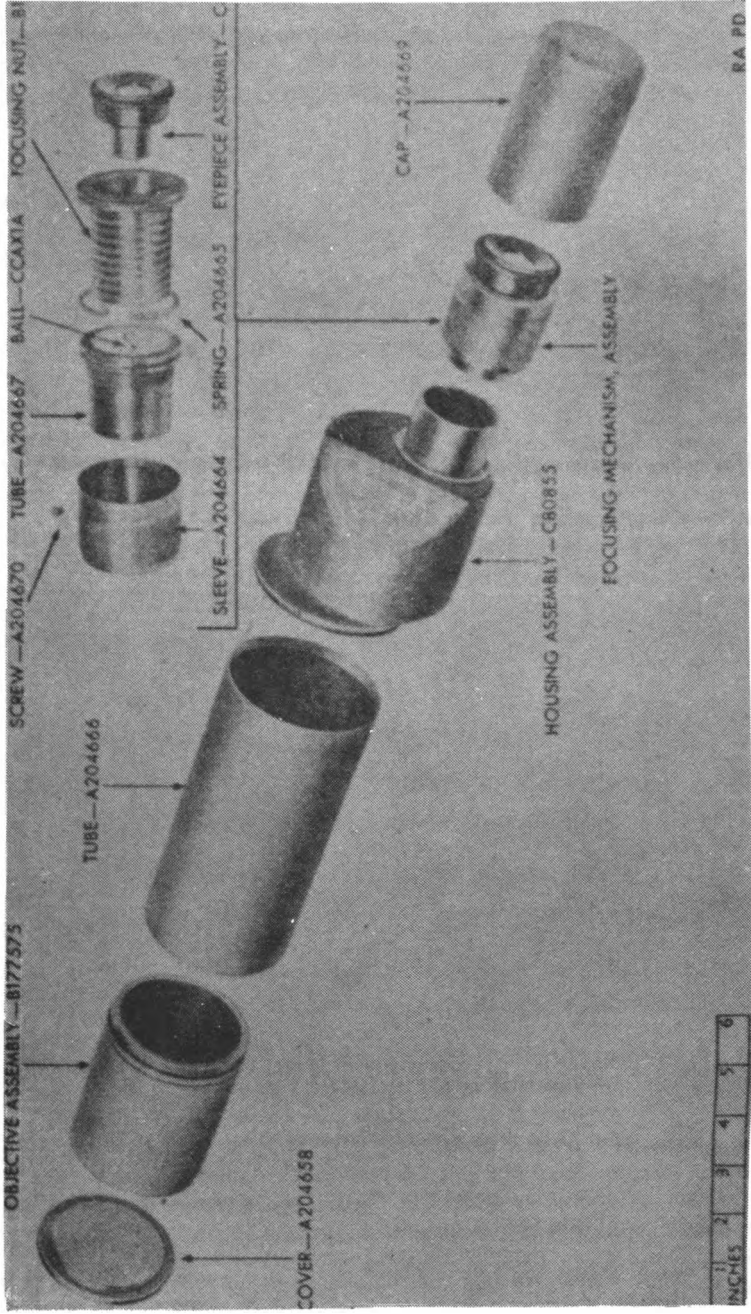
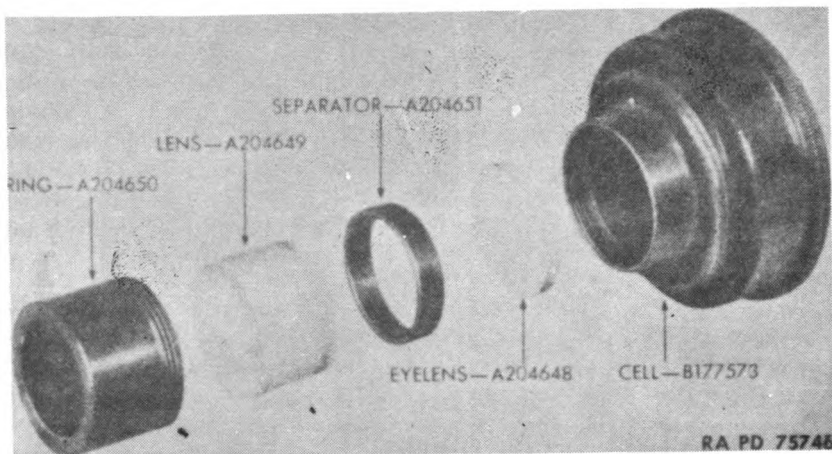
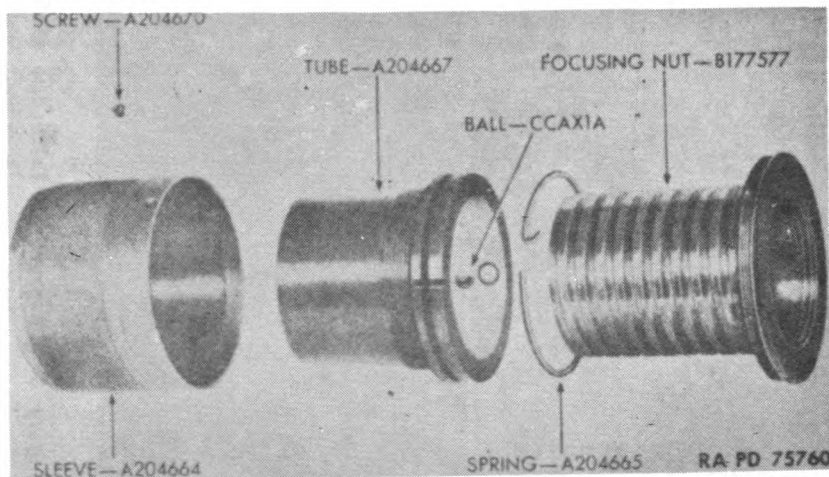
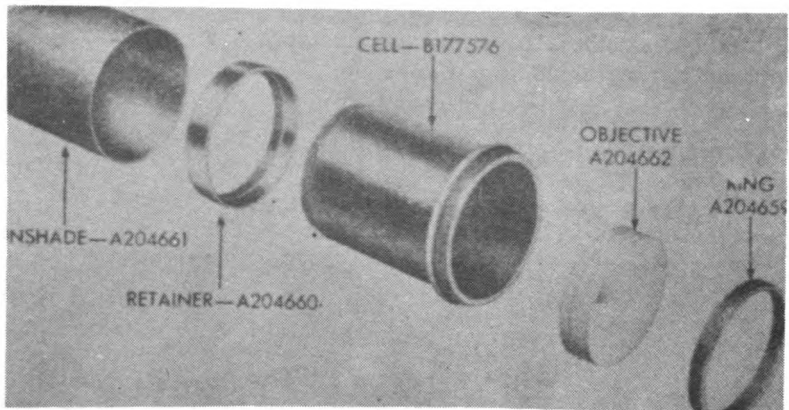

Figure 8—Observation Telescope M48—Partially Disassembled
Figure 9—Observation Telescope M48—Eyepiece Assembly Disassembled
Figure 10—Observation Telescope M48—Focusing Mechanism Assembly Partially Disassembled
Figure 13—Observation Telescope M48—Objective Assembly Disassembled
(1) Remove the eyepiece cover cap (fig. 8). Carefully unscrew the eyepiece assembly (fig. 8) and wrap it in clean tissue paper.
(2) Unscrew the focusing nut locking screw A204670 (fig. 8). Unscrew the eyepiece focusing nut sleeve A204664 (fig. 10) from the focusing nut. Unscrew the focusing nut from the eyepiece focusing nut tube A204667. Remove the ball and spring from its recess.
(3) Unscrew the focusing tube (fig. 8) from the prism housing. Slide off the focusing sleeve.
(1) Unscrew the retaining ring (fig. 9). See figure 8 for components of Observation Telescope M48.
(2) Hold the eyepiece assembly, with the field lens down, and gently tap around the edges of the cell to release the field lens. Repeat the procedure to free the eyelens, tapping more vigorously if necessary. **NOTE:** Be careful to hold the eyepiece assembly over a soft pad or piece of folded tissue when performing this operation. Do not permit the bare finger or table to come in contact with the polished surfaces of the lens. After removal, wrap the lens in lens tissue paper and store in a safe place.
(1) Remove focusing mechanism with eyepiece assembly from prism housing assembly (fig. 8).
(2) Unscrew the prism housing assembly (fig. 8) from the body tube.
(1) Unscrew the retainer (fig. 13) and remove the sunshade which slides over the objective cell.
(2) Unscrew the objective cell (fig. 13) from the body tube A204666 (fig. 8).
(3) Remove the retaining ring from the back of the objective cell and gently tap out the objective. **NOTE:** Be sure to hold the cell over a tissue pad or other soft surface when performing this operation to prevent damage to the objective. If the objective does not come out easily, crumple a piece of lens tissue paper into the cell and, with a piece of lens tissue paper between the thumb and the objective, gently push out the objective. Clean the lens immediately after removal, wrap carefully, and lay aside in a safe place until reassembly.
(1) Place the focusing sleeve in position so the crimped edge is next to the shoulder of the prism housing. Screw the focusing tube into position. Replace the ball spring A204665 on the tube. Place the ball CCAX1A in its recess (fig. 8).